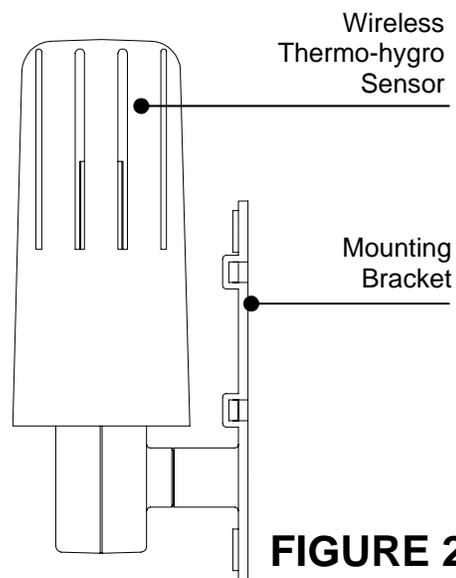

FIGURE 2
2. Wireless Thermo-Hygro Sensor (TX21U) and mounting bracket. (Figure 2)